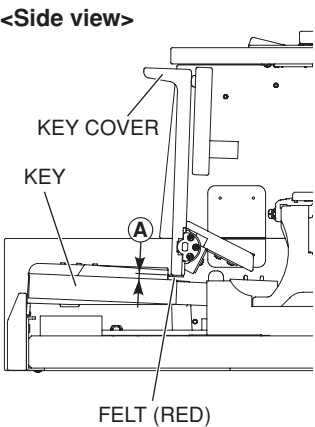

Fig. 8
Standard 1 Make sure the red felt does not rub against keys and is not rolled up when opening the key cover. (Fig. 8)
Standard 2 Make sure the gap between the red felt and the keys is not too wide when the key cover is opened. (Fig. 8)
4.5 mm ±1 mm, difference on the left and right within 1 mm (Fig. 8)